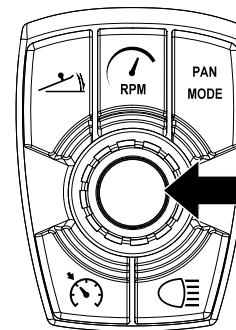

Figure 38. Control Knob
8. Press the **control knob** (Figure 38) to toggle through the left, right, and dual pitch options.